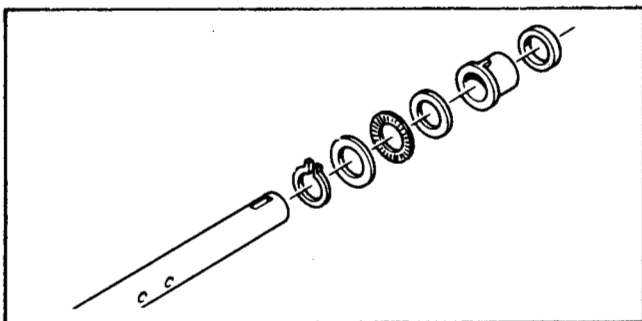

Figure 101
1. If the impeller bearing was removed, reassemble the bearing as shown in Figure 101. Note that the flanged portion of the oil impregnated bearing faces forward.